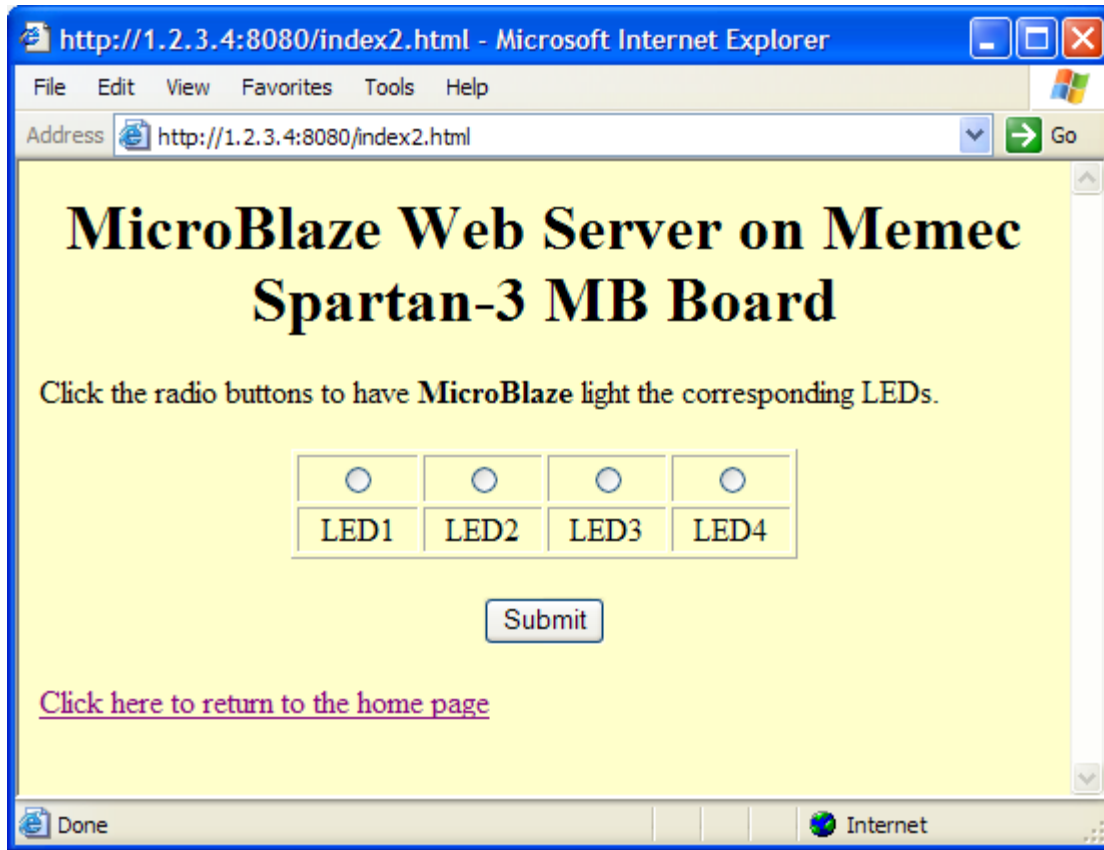

Figure 22 – 2nd Page of the WebServer
28. Click on the link to Click here to Control LEDs individually. This will display the page as shown in Figure 22.